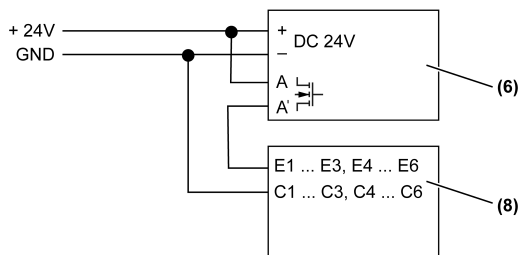

Figure 6: Connection to Binary input 6-gang
| (Figure 6) | (8) Binary input 6-gang, Art. no.: 2116REG |